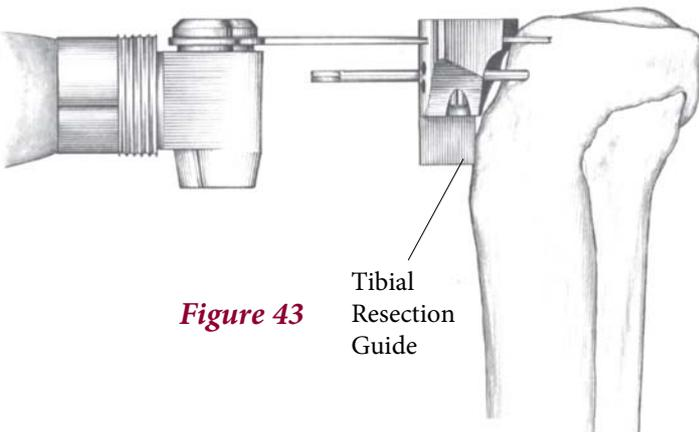

Figure 43
- ▶ Resect the plateau using a .050" (1.25mm) saw blade (**Figure 43**).